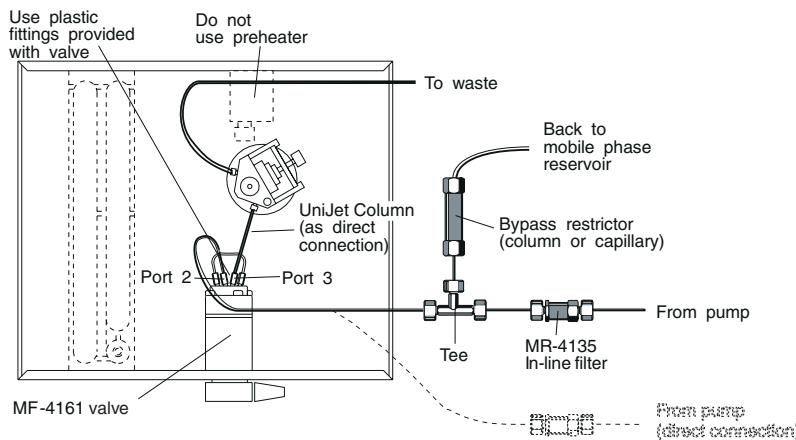
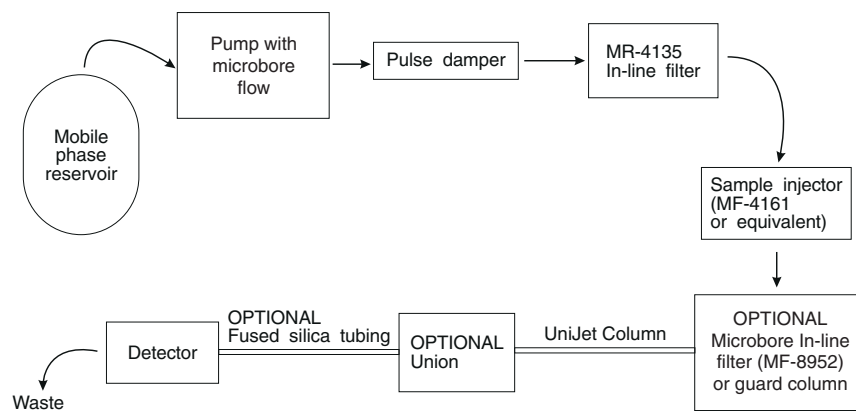

Figure 11. BAS 481
Figure 13. Installation – direct flow
Note: On most BAS products (except BAS 200 series), you will need to provide electrical isolation between the potential of the steel detector block (auxiliary electrode) and earth ground. The plastic ports of the BAS MF-4161 Injection Valve do provide this isolation, and so direct hookups are recommended. If you use a metal valve, then provide the necessary electrical isolation between it and the detector by using a union and the fused silica tubing between the column outlet and the detector. For reference, see Figure 11 and 12 in the following section.
3. If you are using a metal injector, follow the same procedure to attach the plastic/fused silica tubing to the detector (Figure 13). No wrench should be used. The fused silica connecting tube may be unnecessary if you use the special MF-4161 valve; see BAS 481 installation diagram, Figure 11.